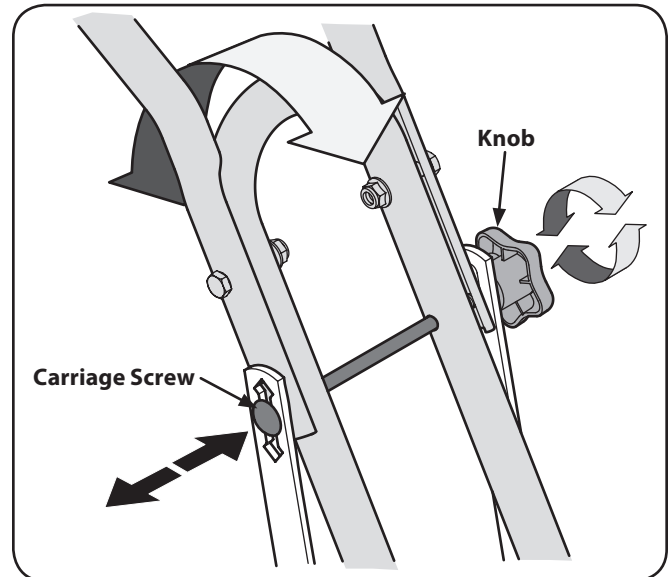

Figure 3-4
- There are three height adjustment holes in the handlebar support bracket. Use a setting that will position the handlebars at approximately waist level when the tines are 3-4" into the soil. To adjust the height of the handlebars loosen the knob on the handle, pull out on the carriage screw, adjust to the desired setting, push the carriage screw in until the square portion of the screw locks into place and re-tighten the knob. See Figure 3-4.